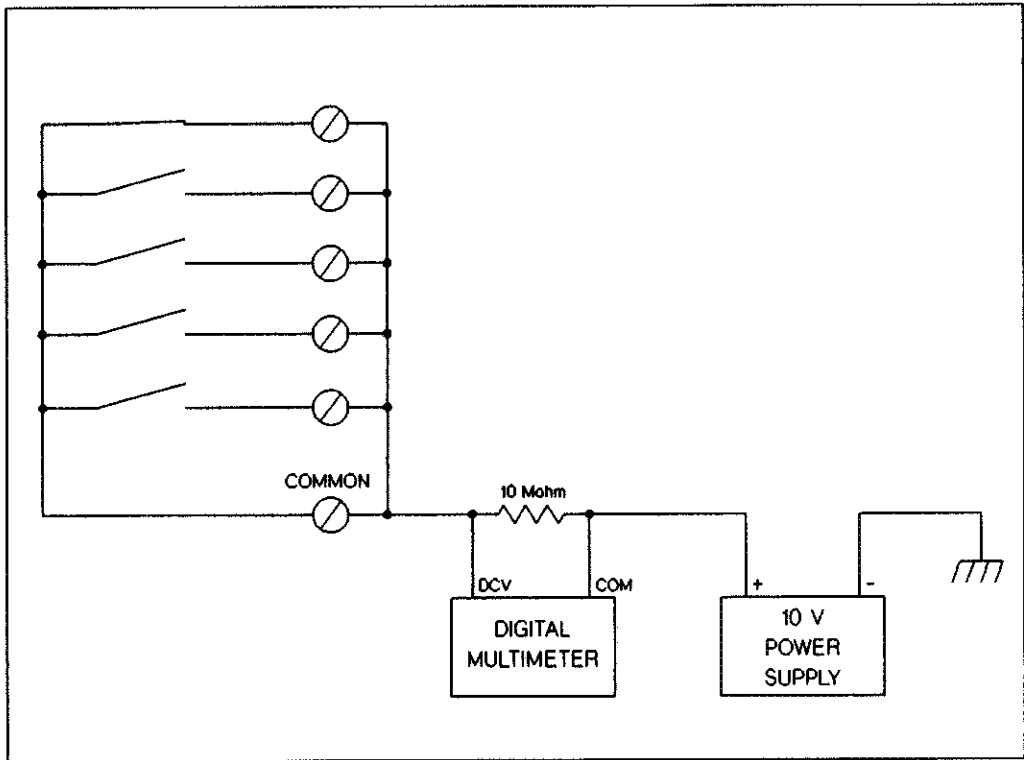
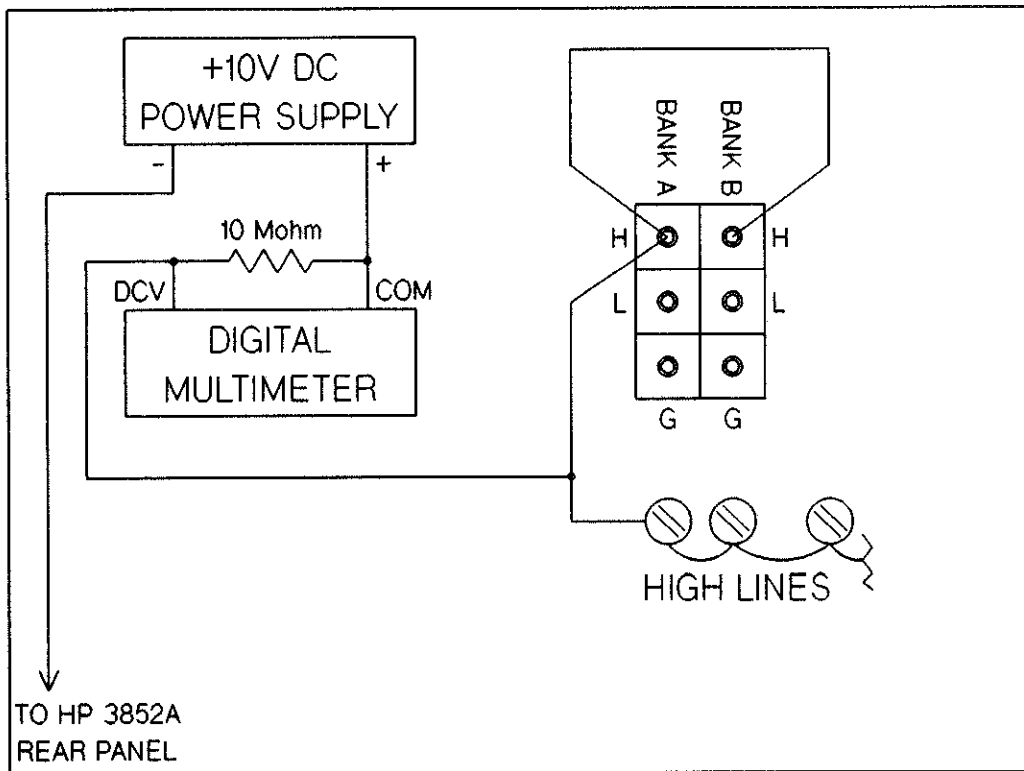

Figure 9-21 Closed Channel Leakage Test
Figure 9-22 HP 44709A/44710A Closed HIGH Channel Test Set-Up
18. **CLOSED CHANNEL LEAKAGE/BIAS CURRENT TEST.** This test checks each channel HIGH, LOW, and GUARD for leakage current when a channel is closed. A simplified schematic of the setup is shown in Figure 9-21 and the test setup for the HIGH lines is shown in Figure 9-22.